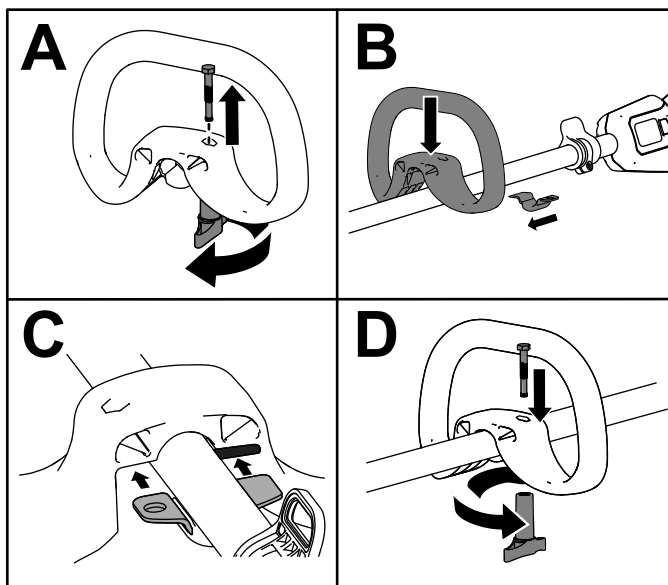

Figure 3
1. Separate the auxiliary handle from the lower handle bracket by unscrewing the handle-lock knob and removing the socket head bolt (A of Figure 3).
2. Align the auxiliary handle with the lower handle bracket on the trimmer handle (B of Figure 3).
3. Slide the lower handle bracket into the slot on the auxiliary handle (B of Figure 3).
4. Secure the auxiliary handle to the lower handle bracket with the socket head bolt previously removed (C of Figure 3).